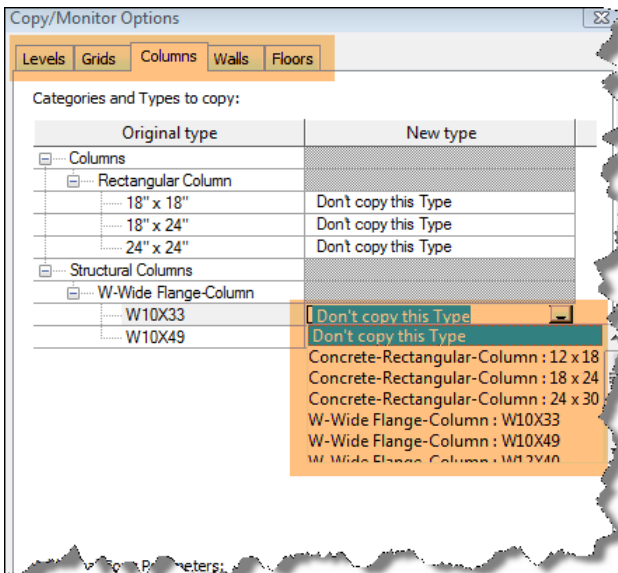

Figure 4: Copy/Monitor options
5. When the Columns tab is activated, you will see the structural columns that are in the architectural model. From the New type column, select the Structural column you want to create in your structural model, or choose "Don't copy this Type" (see Figure 4).